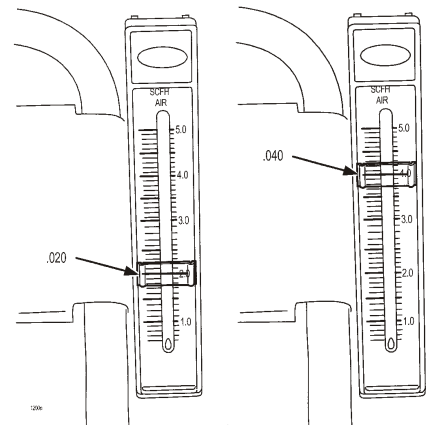

Fig. 8
4. Mark the Flow Meter reading with the pointer flag (fig. 8) (.020" should read in the lower range of the Flow Meter and the .040" should read in the higher range of the Flow Meter).
7. If the flow ball reading is above the calibrated flow marker (fig. 8), then the vehicle failed the test and a repair is required. If the flow reading is below the calibrated flow market, then vehicle passed the test and no further action is required.
6. If the flow reading is higher than the pointer flag (see page 5, fig. 8), then the vehicle failed the test and a repair must be completed on vehicle. If the flow reading is less than the flag, then the vehicle passed the test and no further action is required.
6. If the flow meter ball is higher than the pointer flag (see page 5, fig. 8), then the vehicle failed the test and a repair must be completed on this vehicle. If the flow reading is less than the tell tale flag, then vehicle passed test and no further action is required.
7. If the meter flow reading is higher than the pointer flag (see page 5, fig. 8), then vehicle failed the test and a repair must be completed. If the flow reading is less than the flag settling, then the vehicle passed the test and no further action is required.